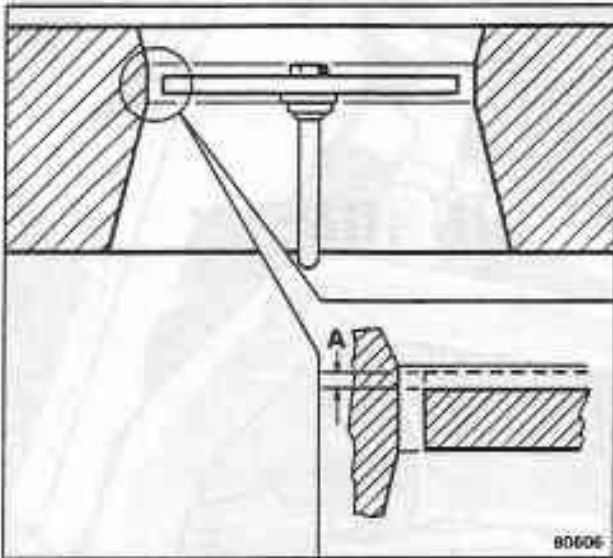

Fig. B3-25 Air sensor plate position
7. The air sensor plate should be positioned as shown in figure B3-25, with the plate not protruding above or below the parallel section of the air cone.